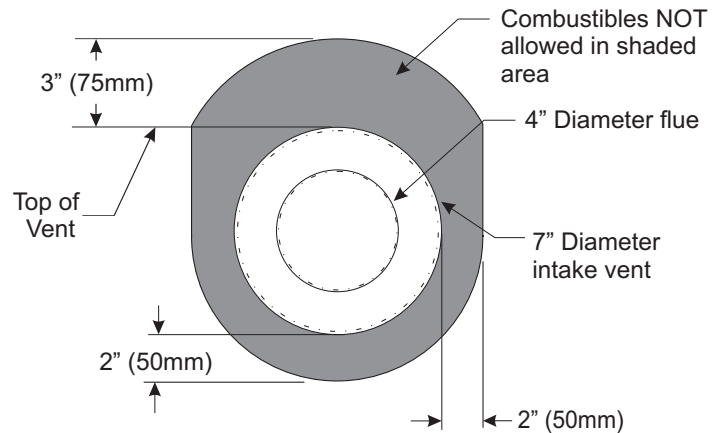

Figure 67
10. Apply sealant to the outside of the flue pipe adapter and connect to the flex flue pipe. Then insert the adapter into the fireplace flue. Secure flue adapter to the fireplace flue with a minimum of two screws provided. **See Figure 67.**